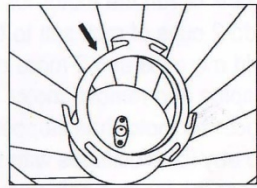

Figure 3
5. Place the plastic stabilizing ring into the wooden bucket. (Figure 3)